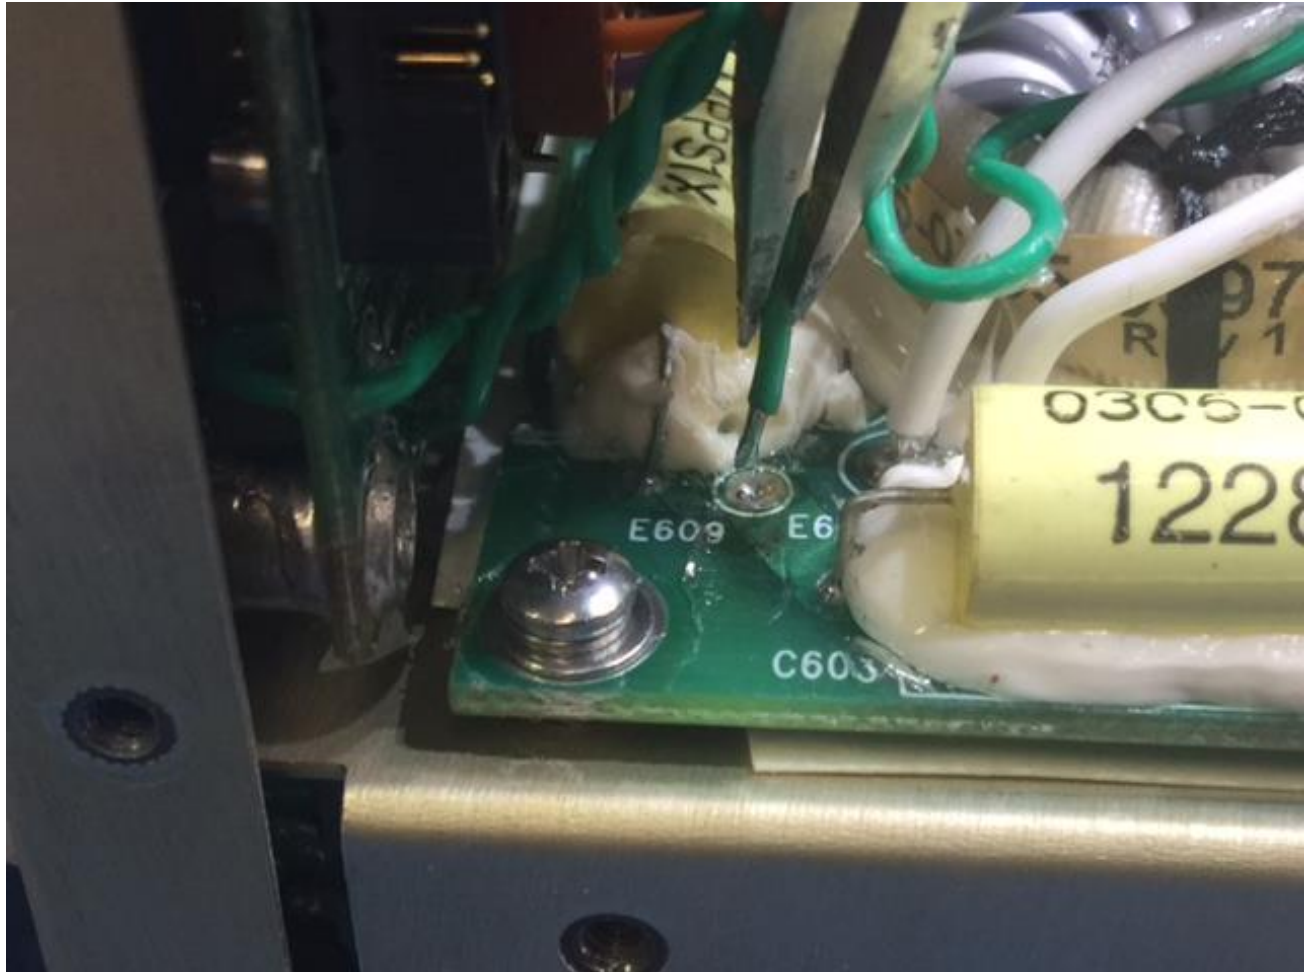
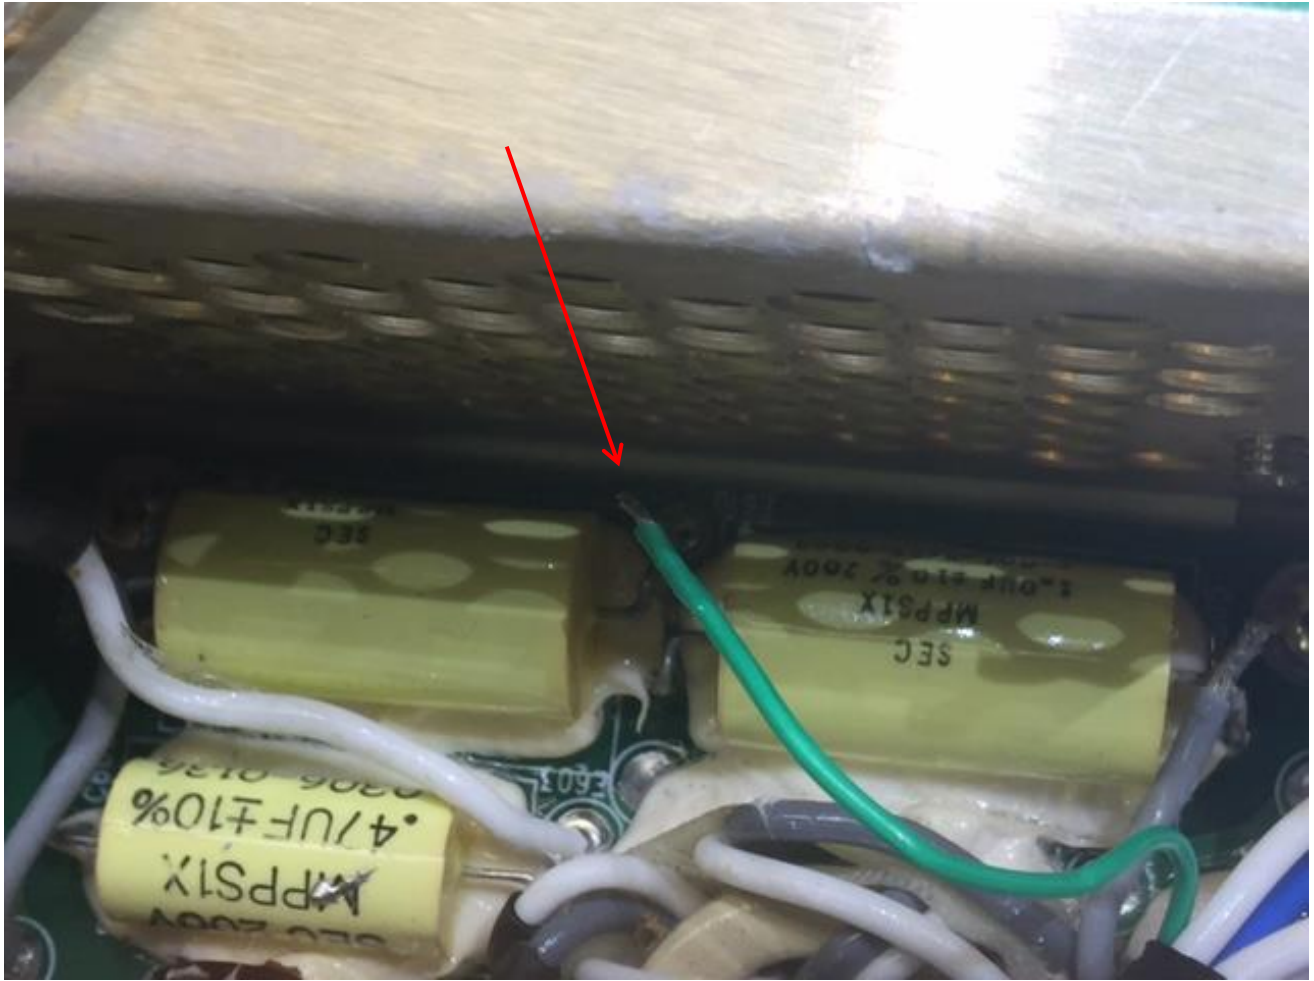
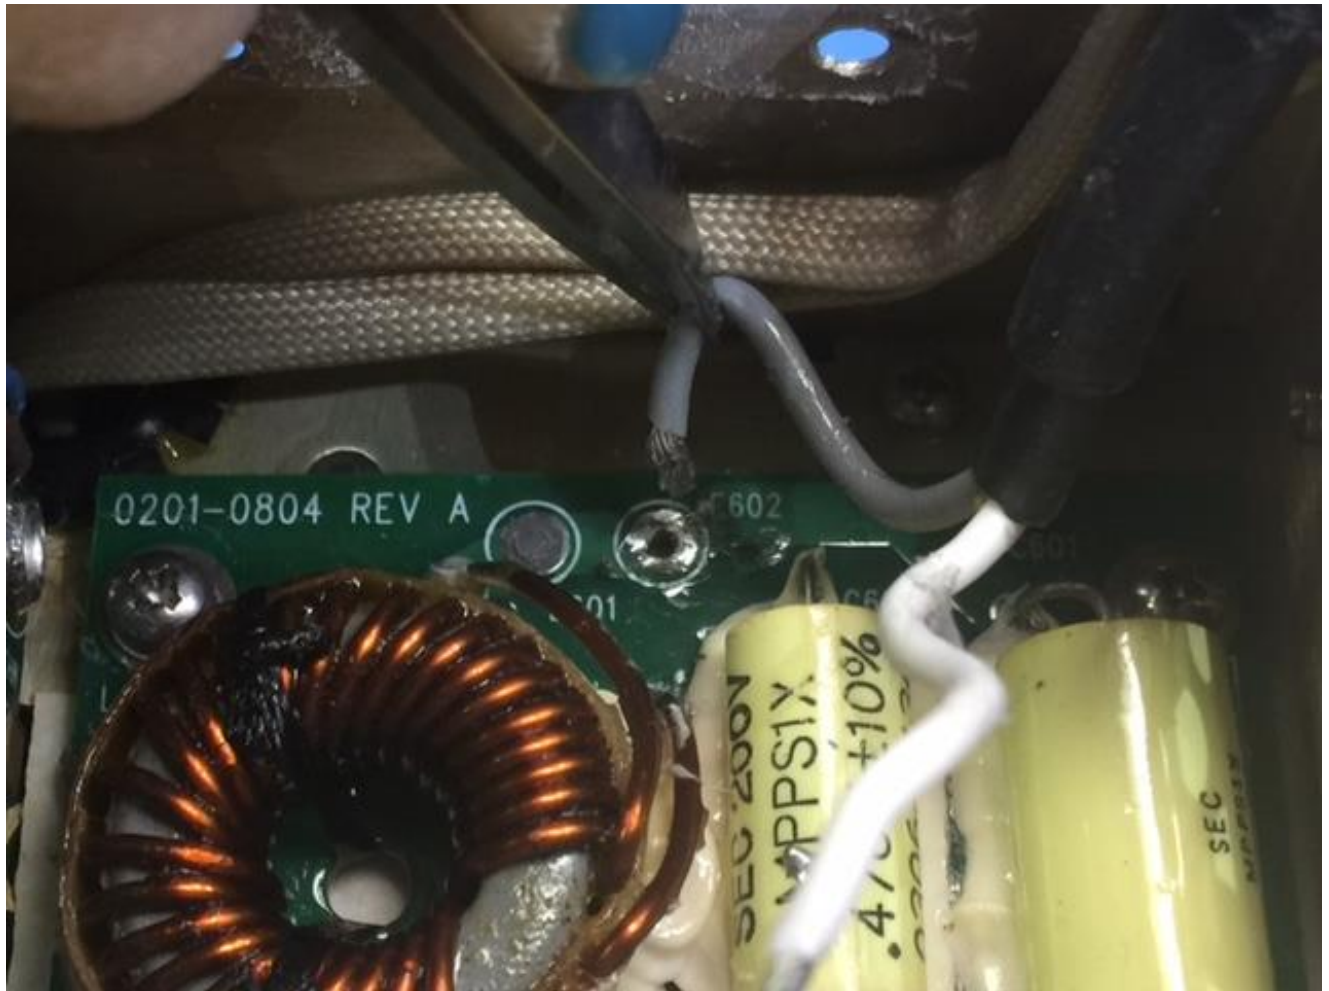

Figure 7
Figure 10
Figure 12
5. Disconnect the wires/cables by de-soldering at locations E602, E603, E605, E608, E609 and E610 on the EMI Output board assembly (Soldering Iron tip JBC C245-741). (Figure 7, Figure 8, Figure 9, Figure 10, Figure 11, Figure 12).
15. Assemble the repaired EMI output assembly (1-002-01008-0256) onto the EMI shield using (4) screws/washers.
16. Solder wires/cables at locations E602, E603, E605, E608, E609 & E610 on the EMI Output board assembly using solder wire (1-001-2301-0002, CLEANLINE 7000, 0.032"DIA, 63 SN 37 PB 2% FLUX) and soldering iron (tip JBC C245-906 or equivalent). (Figure 7, Figure 8, Figure 9, Figure 10, Figure 11, Figure 12).